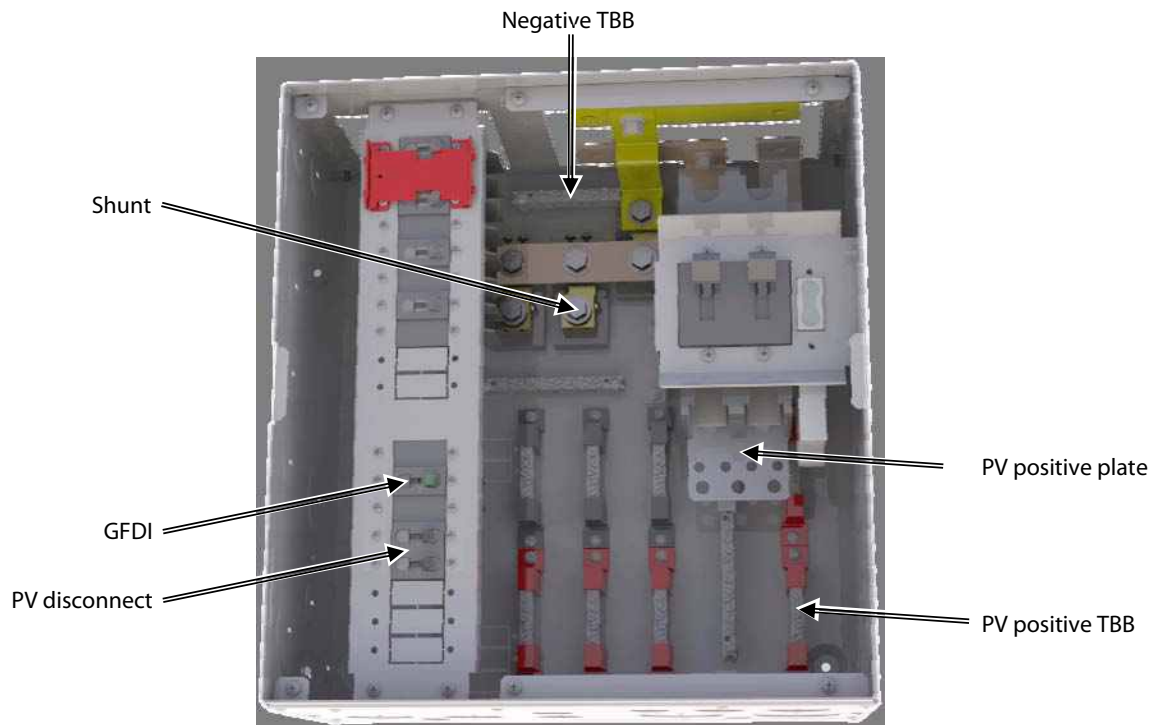

Figure 26 PV Connections in the GSLC
1. Connect the PV positive wire to the GSLC's PV positive TBB (see Figure 26).
3. Install a wire from the PV TBB to the PV disconnect circuit breaker (see Figure 26).